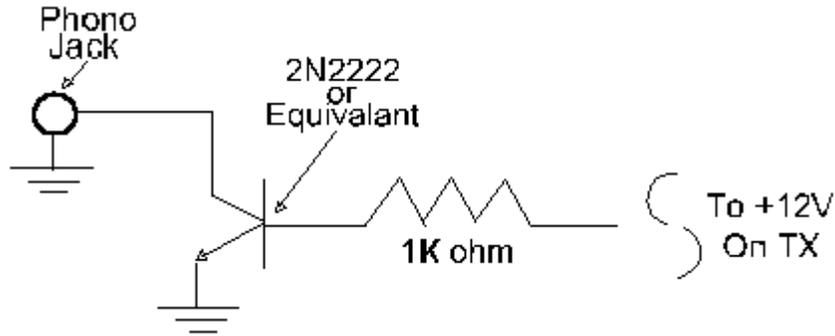

Figure 1-PTT Circuit
1. Find a point in the circuit that goes to a positive voltage on transmit. (Several points in the radio go to about +8 V during transmit, including the base of Q39.) This signal will key your transverter's PTT circuit through a transistor. Attach the circuit of Figure 1 to that point and to the new PTT jack.